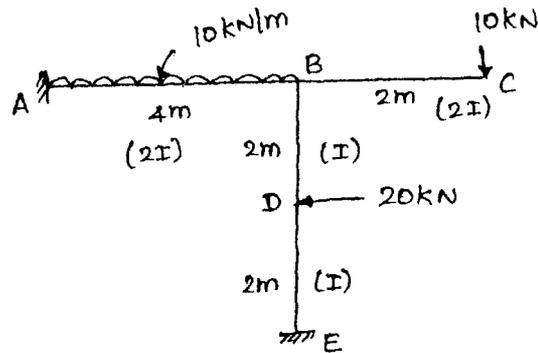

Fig. 6
- (b) Analyse the structure shown in Fig. 6 by the slope deflection method. Sketch the bending moment and shear force diagrams.